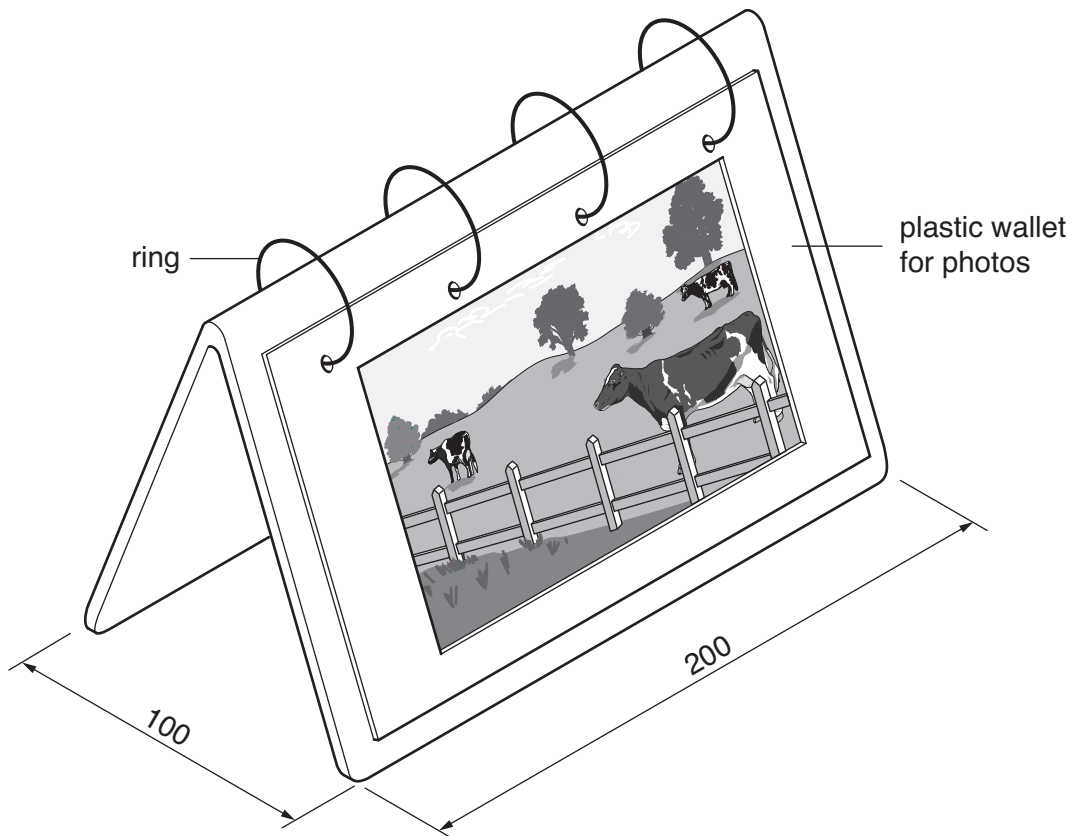

Fig. 6
- 5 Fig. 6 shows a photograph holder made from 5 mm thick acrylic. The rings are made from stainless steel.